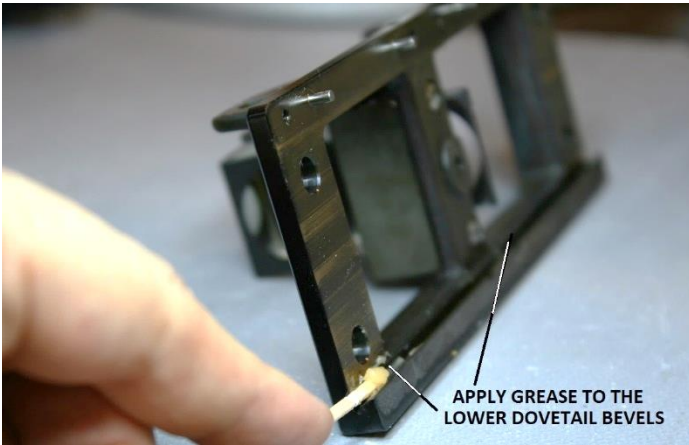

Figure 86 – Apply grease to lower dovetail levels of frame
Apply a light coating of a suitable grease (item 5 of Appendix 1) to the two dovetail levels in the bottom channel of the front frame (see Figure 86).